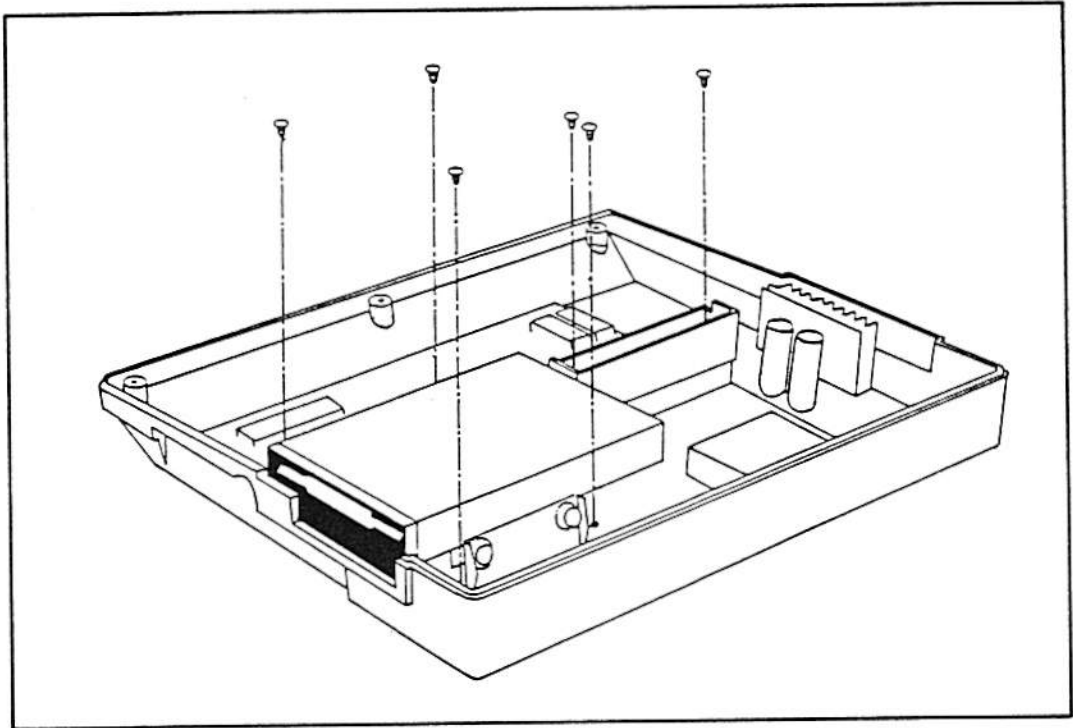

Figure 5.4 Location of Screws on the Microfloppy and Cartridge Support
- (1) Loosen the 4 machine screws attached to the Microfloppy and Main Logic Board. (See figure 5.4)
- (2) Gently disconnect the interface and power cables of the microfloppy drive.
- (3) Remove the microfloppy drive and put it in a safe place.
- (4) Unscrew the 2 machine screws in the cartridge slot. (See figure 5.4)
- (5) Remove the cartridge support and the whole picture of the Main Logic Board will be seen.
- (1) Carefully flip the Top Housing of the Console up side down. (See figure 5.4)